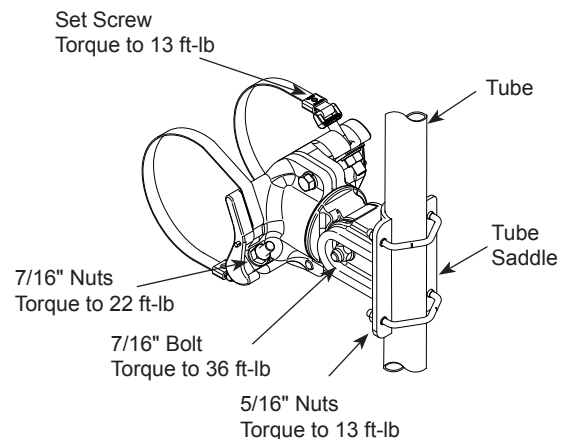

Figure 6
20. Mount the tube assembly (with its attachments installed) into the male clamp of the kit. Insert the v-bolts as shown and attach with lock washers and nuts. (Figure 6). Position the signal to the desired height and direction, torque nuts on (2) 5/16" v-bolts to 13 ft-lb. DO NOT OVERTIGHTEN.